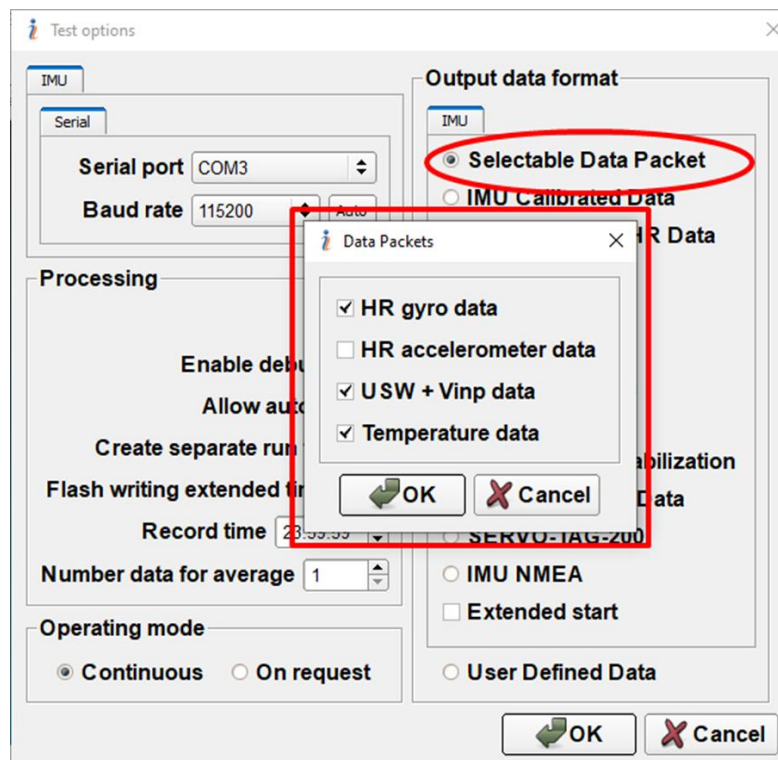

Fig. 3.4. Variants of Selectable Data Packet
3. Choose the appropriate output data format for your application in the “Test Options” menu. Supported formats are listed in Section 5.1. Variants of the Selectable Data Packet are shown below in Fig. 3.4.